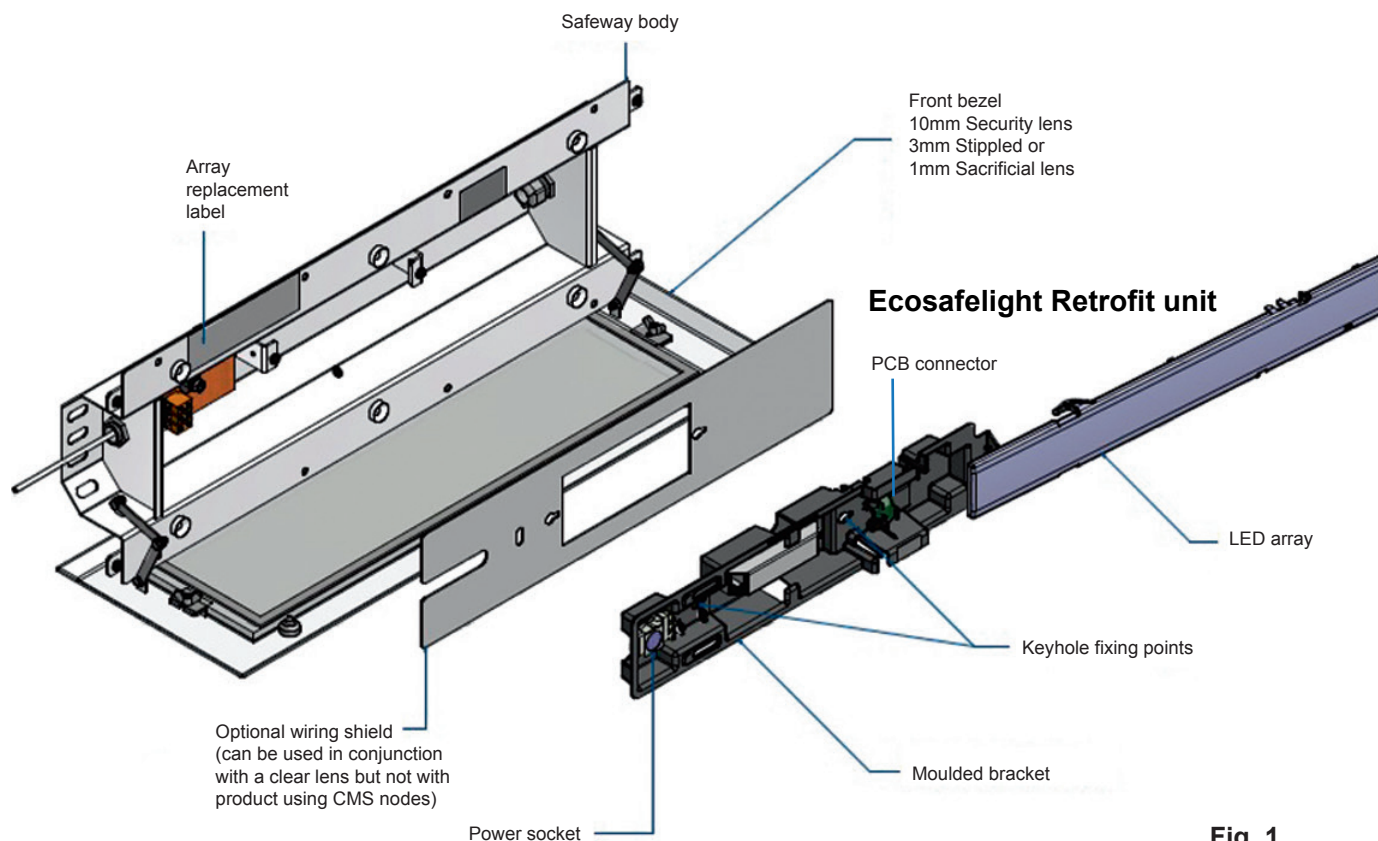

Fig. 1
11. The array replacement label should be fixed to the inside front face of the Safeway body as shown in the diagram (Fig1). This is for future reference.